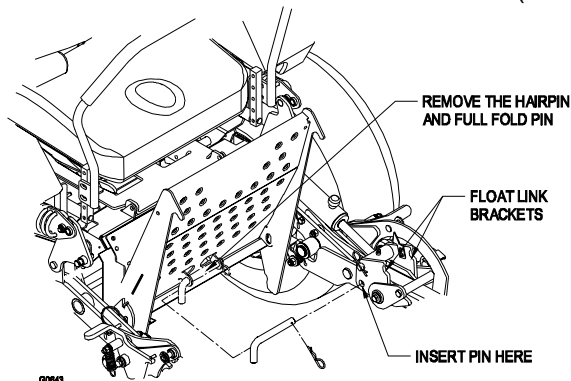

FIGURE 8
- b) Flip up the floor pan and remove full fold pin. Retract the cylinder to align holes in float link bracket with holes in front frame. (Deck will be at or near lowest height.) Insert into the bottom hole of the float link bracket (see Figure 8). Lower the floor pan.
- b) Raise the floor pan to the locked position as shown in Figure 8.